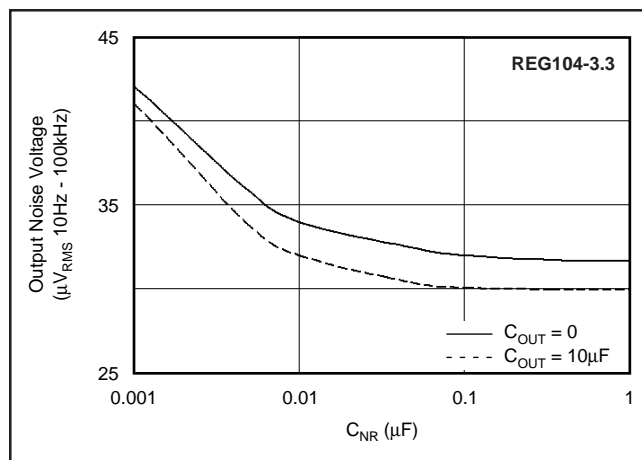
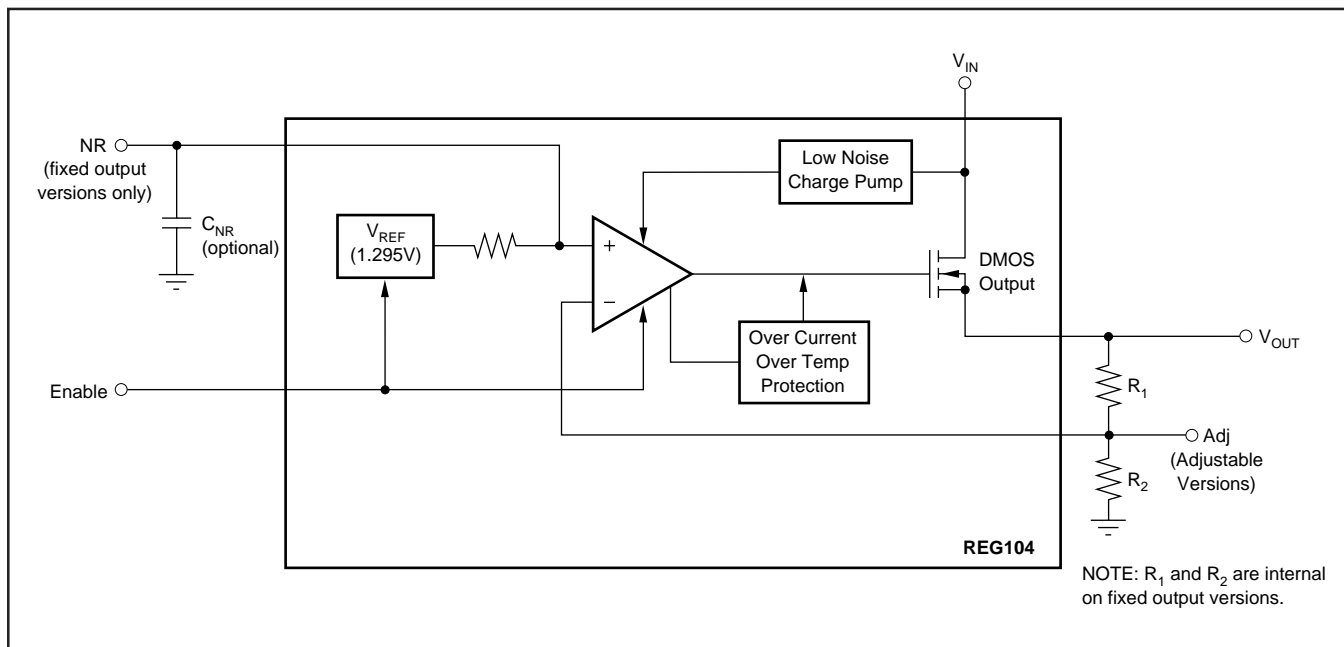

FIGURE 6. Output Noise versus Noise Reduction Capacitor.
FIGURE 5. Block Diagram.
Connecting a capacitor,  $C_{NR}$ , from the Noise-Reduction (NR) pin to ground can reduce the output noise voltage. Adding  $C_{NR}$ , as shown in Figure 5, forms a low-pass filter for the voltage reference. For  $C_{NR} = 10nF$ , the total noise in the 10Hz to 100kHz bandwidth is reduced by approximately a factor of 3.5. This noise reduction effect is shown in Figure 6.